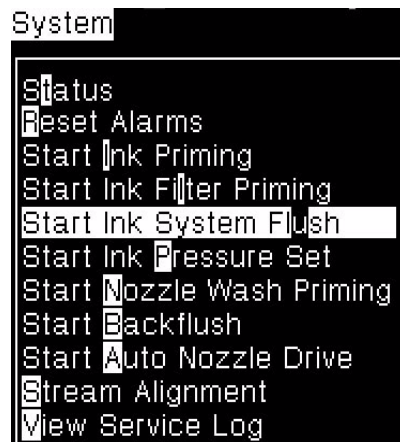

Figure 6-12: System Menu - Start Ink System Flush
- 16 Replace and engage the make-up bottle and check that the make-up supply tank is not low. Select *Start Ink System Flush* from the System Menu (Figure 6-12 on page 6-12). When the flush procedure is